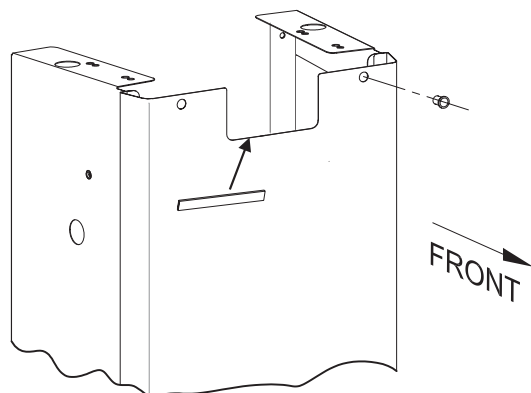

Figure 6
6. Insert bushing in the front panel on the right for P and H series and on the left for R and T series grills. Install rubber guard over cart cut out. See Figure 6.